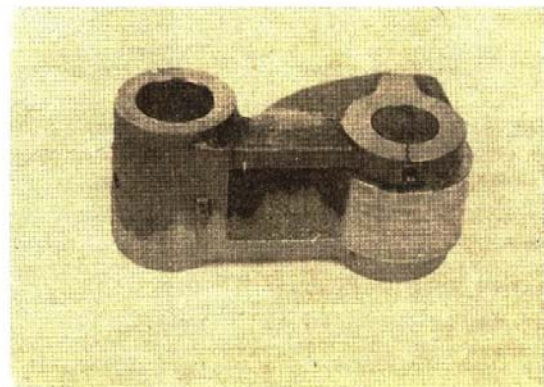

Fig. 4-5. Magnetic crack detection check
5. Check for surface cracks by magnetic inspection. Apply coil amperage at 300 to 500 with residual magnaglo. See Fig. 4-5 for most likely areas. Magnetically remove the magnetism from all serviceable parts.